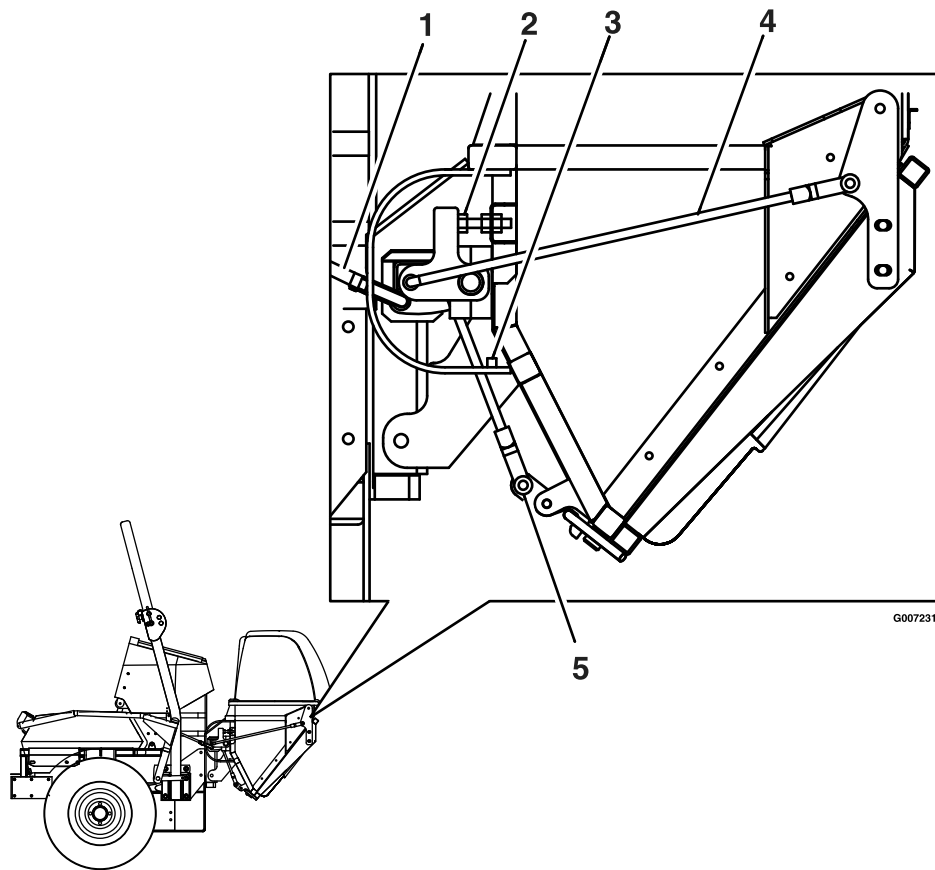

Figure 9
1. **Door closing:** The closing of the door is controlled by the two hinge links and the two stop screws (see Figure 9). The stop screws should be adjusted so that both will be contacted when the contacting arm is straight up and down. With the stop screws adjusted, the length of the hinge links can be changed to provide complete closing of the door, and reasonable force on the handle to latch or unlatch the door. Lengthen the links to reduce the force. Shorten the links to increase the force. With the door closed, both links should be slightly tight to minimize rattling.
2. **Door opening:** After adjusting the hinge links for door closing, the handle link can be adjusted to obtain maximum door opening (see Figure 9). Lengthen the link to open the door farther. Shorten the link to open the door less.
3. **Latches:** Once the open and closed positions have been set, the latches can be adjusted (see Figure 9). With the door closed, the latch link should be set so that the latch plate completely engages and contacts the latch rod welded to the door. The latch plates should not be tight against the latch rod. They should easily “wiggle”.